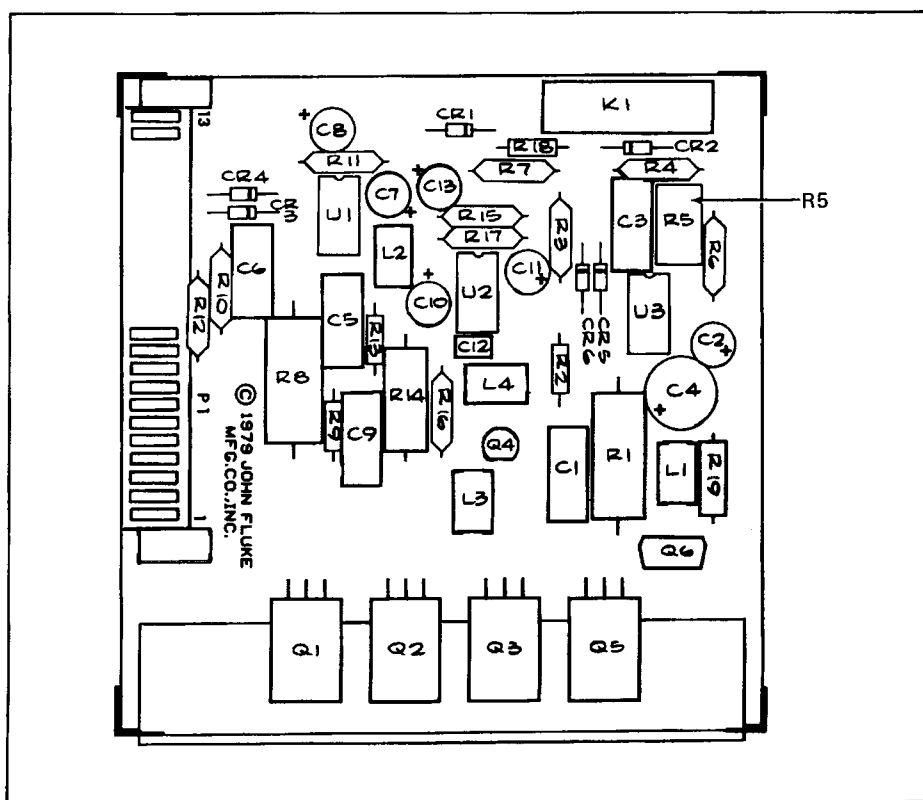

Figure 6-4. A6A4 +12, -12, +24V Series Pass PCB
- b. Adjust R5 on the A6A4 +24V, +12V Series Pass Regulator PCB (Figure 6-4) so that the DVM display is between 23.997 and 24.003 mV dc.